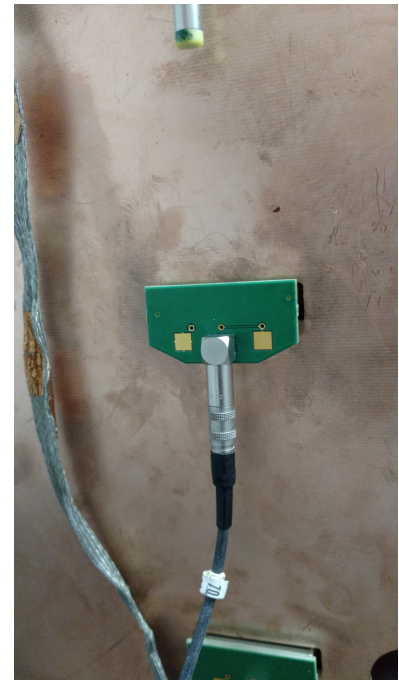

Figure 25: The Panasonic connector for the picoammeter.
1. Connect the Panasonic connector with the grey cable to sector (4,2) (fig. 25).